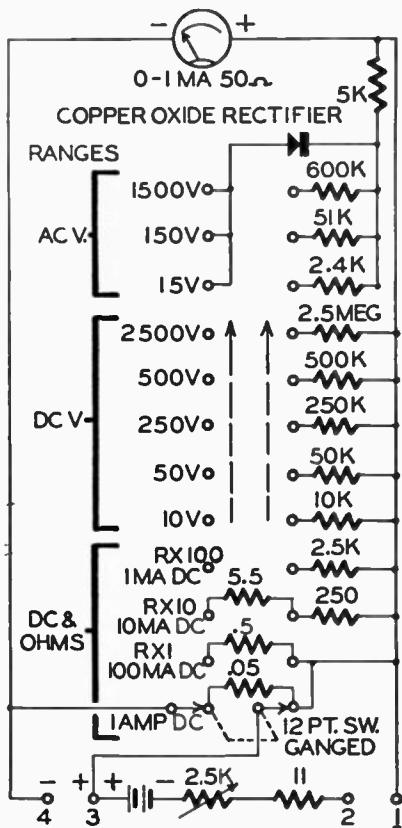

Fig. 611
A. A multitester having a.c. and d.c. voltage ranges and d.c. ma as well as ohm ranges is shown in Fig. 611. Terminal 4 is common. For a.c. and d.c. volts, use terminals 3 and 4, with the switch set to the proper ranges. For ohms, terminals 2 and 4 are used. The milliammeter uses terminals 3 and 4 with the same switch ranges as the ohmmeter. As there is a 2,500-ohm resistor in series with the meter in the 1-ma position, another lead, terminal 1, is supplied for that range in applications where the 2.5-v drop across the resistor would throw out calibration.